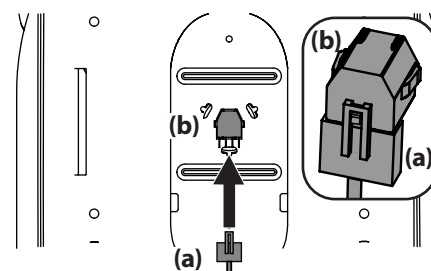

Figure 8
- If necessary, securely connect the seat switch wiring harness (a) to the seat switch (b). See Figure 8. Secure excess wire away from pinch points before continuing.